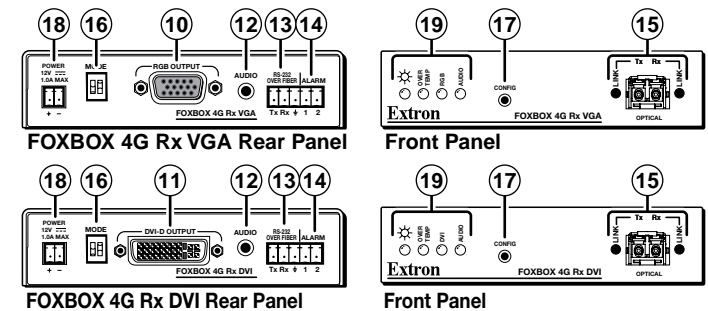

Figure 2-6 — FOXBOX 4G Rx receiver's connectors
Connect the free end of this fiber optic cable to the Rx connector on the FOXBOX 4G Rx receiver (item ⑮ on figure 2-6) or to any other compatible Extron FOX device.
Connect the free end of this fiber optic cable to the Tx connector on a FOXBOX 4G Rx receiver in normal configuration (item ⑮ on figure 2-6) or to any other compatible Extron FOX device.